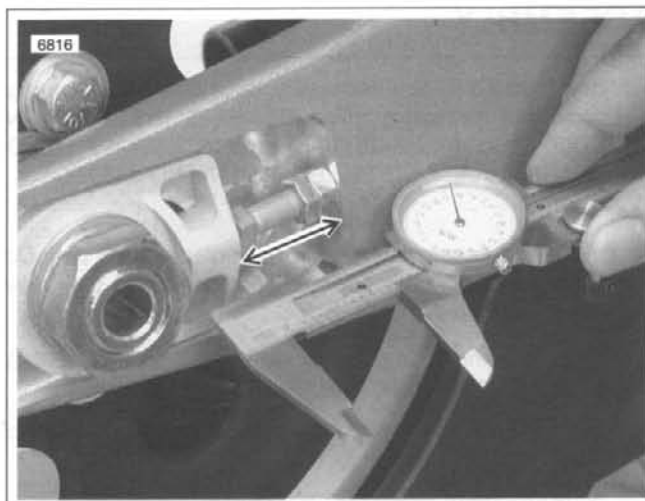

Figure 2-118. Checking Rear Wheel Alignment, Right Side Shown
- a. See Figure 2-118. Check rear axle alignment.